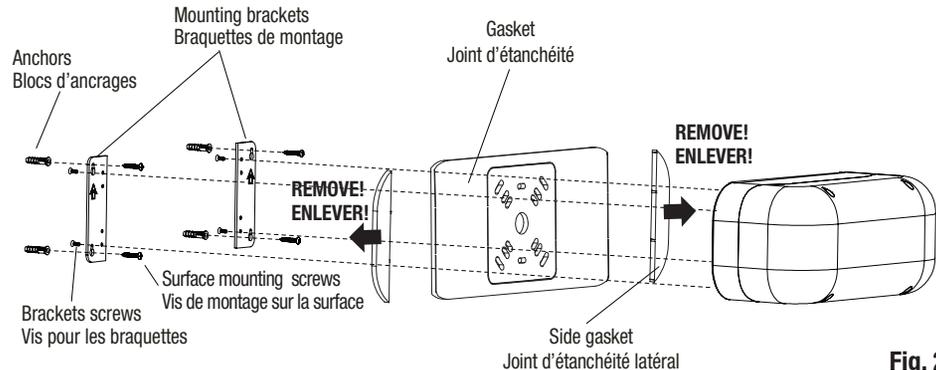

Fig. 2
4.b For installation with mounting brackets (Fig. 2) only, break through appropriate central knockout into the back housing. Remove the sides parts of the gasket and paste it on the back of the unit and route wires through the central hole. Mount the brackets on the back housing using the four screws provided in the hardware bag (use screwdriver PH2X). Place the housing on the required surface and use the bracket holes as a drilling template. Drill the four holes and fix the mounting anchors inside each hole.
6.b For installation with mounting brackets (Fig. 2) only, mount the fixture on the surface using the two brackets and the four mounting screws provided (use screwdriver PH3X). Tighten the screws enough to compress the gasket to ensure a good sealed joint.
4.b Pour installation avec braquetttes de montage seulement (Fig. 2), défoncer les orifices prédécoupés appropriés dans le boîtier arrière.
6.b Pour installation avec braquetttes de montage seulement (Fig. 2), fixer l'unité en place avec l'aide de deux supports et les quatre vis de montage incluses (utiliser le tournevis PHx2). Serrer les vis suffisamment pour comprimer le joint d'étanchéité pour assurer un joint scellé.